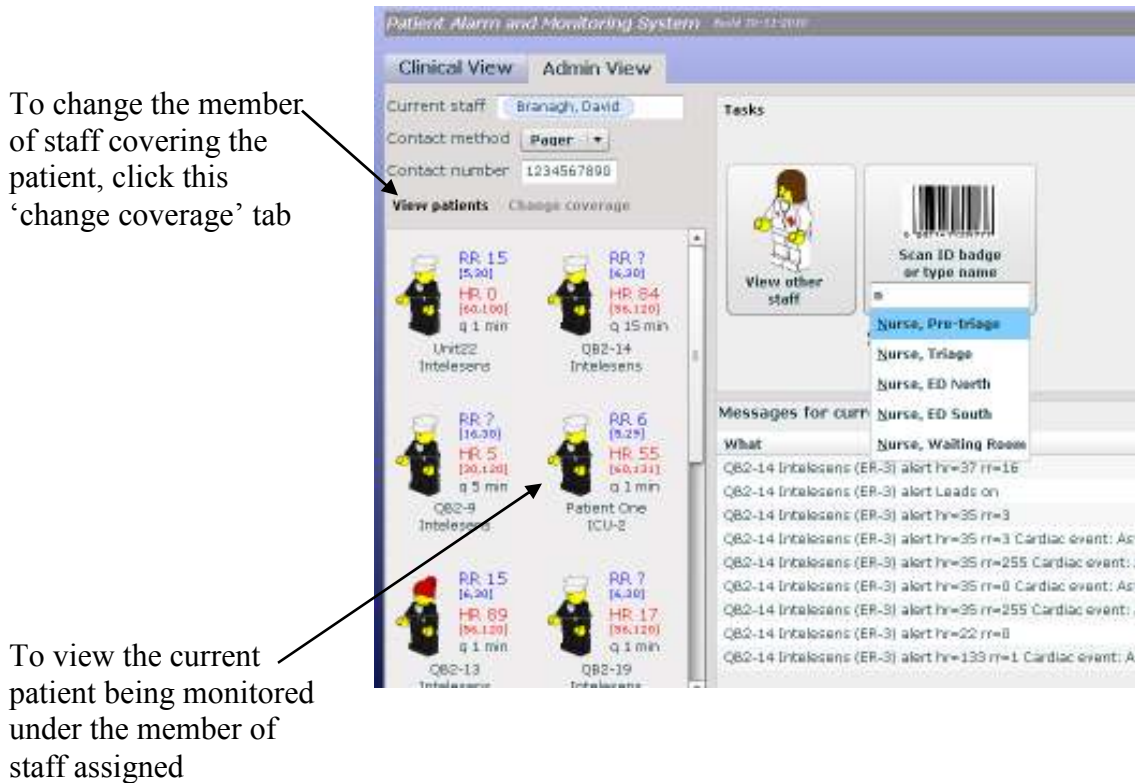

Figure 31. Change staff monitoring a patient
- Step 1:** Select Change staff (task button). The next step button will replace all other task buttons, as shown above in Figure 31. Staff names are already saved on the system therefore selection of the name is required (if not there must be registered to login) refer to PAMS administration instructions
- Step 2:** As indicated by the instruction button, scan the badge ID for the new staff or type in the login name. If the name is typed in, a follow-up instruction button will request a password. This will automatically bring up the ‘View patients’ tab as shown above in Figure 31.